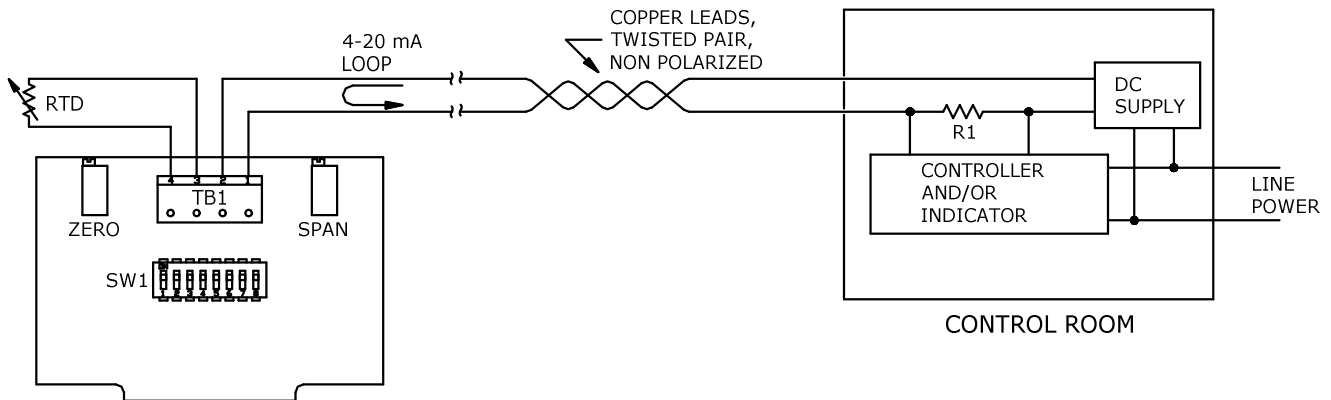

Figure 1
Installation of the TT809 consists of mounting the transmitter and connecting it to power. The housing is mounted using two fold-out tabs on the bottom. Power and RTD wires are connected to the transmitter by 4 screw terminals located near the edge of the circuit board (Figure 1). The transmitter's power and RTD connections are designed for non-polar hook-up, so polarity is not important. Locate the Temptran near the RTD in an area where the ambient temperature stays between  $-40$  and  $85$  °C ( $-40$  and  $185$  °F). If calibration is necessary, set dip-switches before sliding transmitter circuit board into metal housing (See *Transmitter Ranging* section).
1. Connect a 1000 ohm RTD to the "RTD" terminals as shown below (Figure 1).